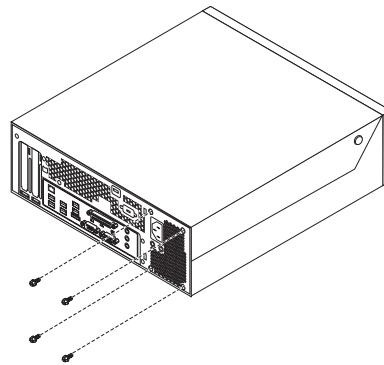

Figure 16. Power-supply-retaining screws
1. Remove the four screws at the rear of the chassis that secure the power supply. See Figure 16.